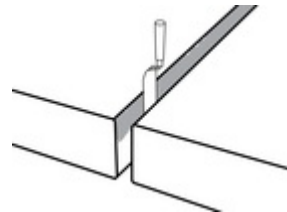

Fig. 1
- When fully prepared to install, apply a 2 - 3 mm coating of the epoxy mixture to both joint walls using a suitable margin trowel to a depth of the TW200 plus 10 mm (Fig. 1).